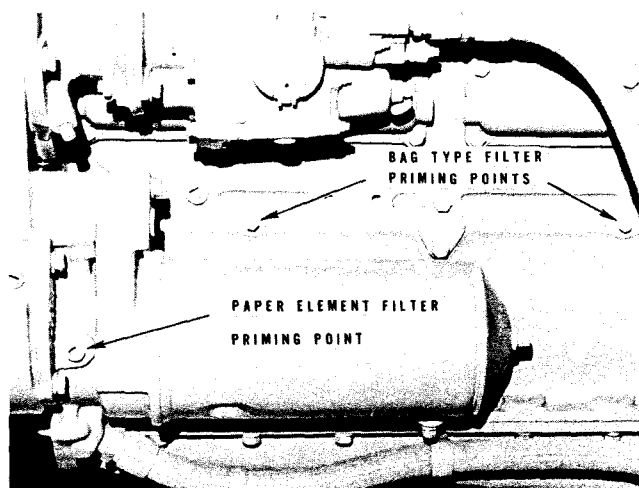

Fig. 2-1. Lubricating system priming points
2. Remove pipe plug from side of cylinder block if bag type filter element is used; if paper element, plug on side of lubricating oil pump. Fig. 2-1.